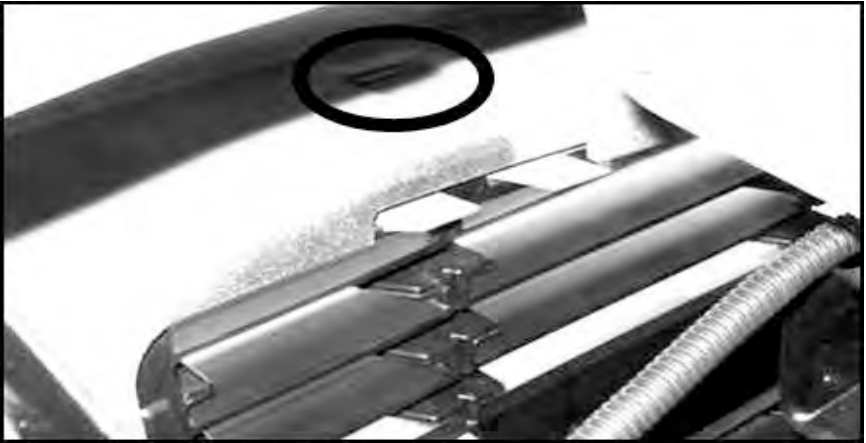

Figure 5. The tabs securing the grille frame to the bumper are visible from inside the engine compartment.
1.4) Remove grille assembly from bumper. Once the four screws are removed from the grille assembly, the grille frame is still held in place by four tabs along its perimeter. These tabs are visible from inside the engine compartment (**Fig. 5**). Insert a slotted screwdriver between the grille frame and the bumper at the outside of the vehicle (**Fig. 6**), and gently pry the grille frame from the bumper by freeing each of the four tabs as you work your way around the grille frame.